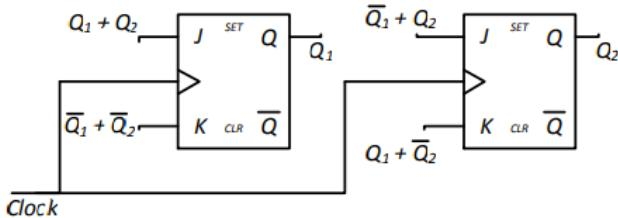

Fig. 5.31
32. A 2-bit synchronous counter using two J-K flip flops is shown in Fig. 5.31. The expressions for the inputs to the J-K flip flops are also shown in the figure. The output sequence of the counter starting from $Q_1Q_2 = 00$ is